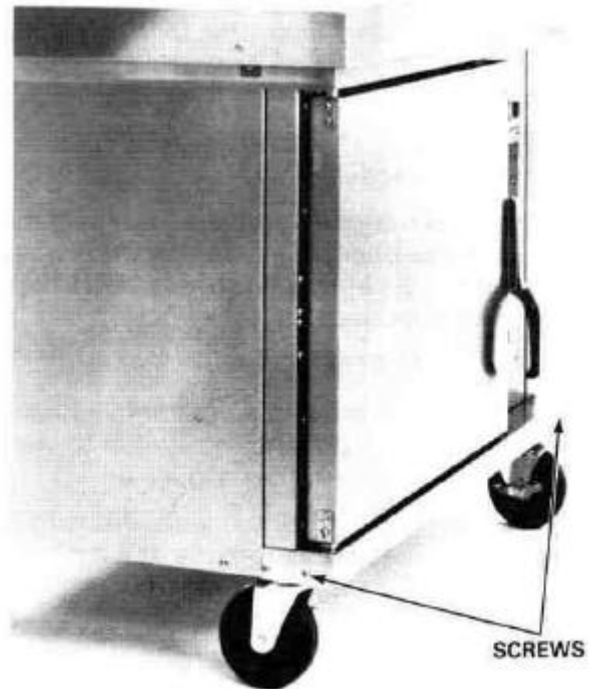

Figure 7
2. Remove the lower front trim by removing the 4 screws located on the sides of the trim piece. (See Figure 7)